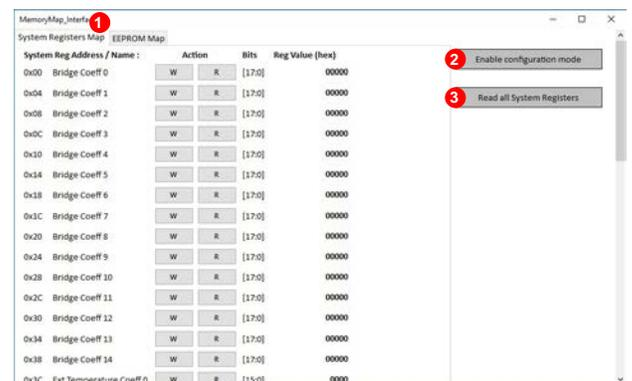

Figure 28. System Registers Memory Map View
1. Select **System Registers Map** (Label 1 in Figure 28) to read or write to the system registers.
2. Click **Enable configuration mode** (Label 2 in Figure 28) to enable writing to the system registers.
3. Click **R** to read individual system registers and click **W** to write to individual system registers (see Figure 28). Click **Read all System Registers** (Label 3 in Figure 28) to read all values.